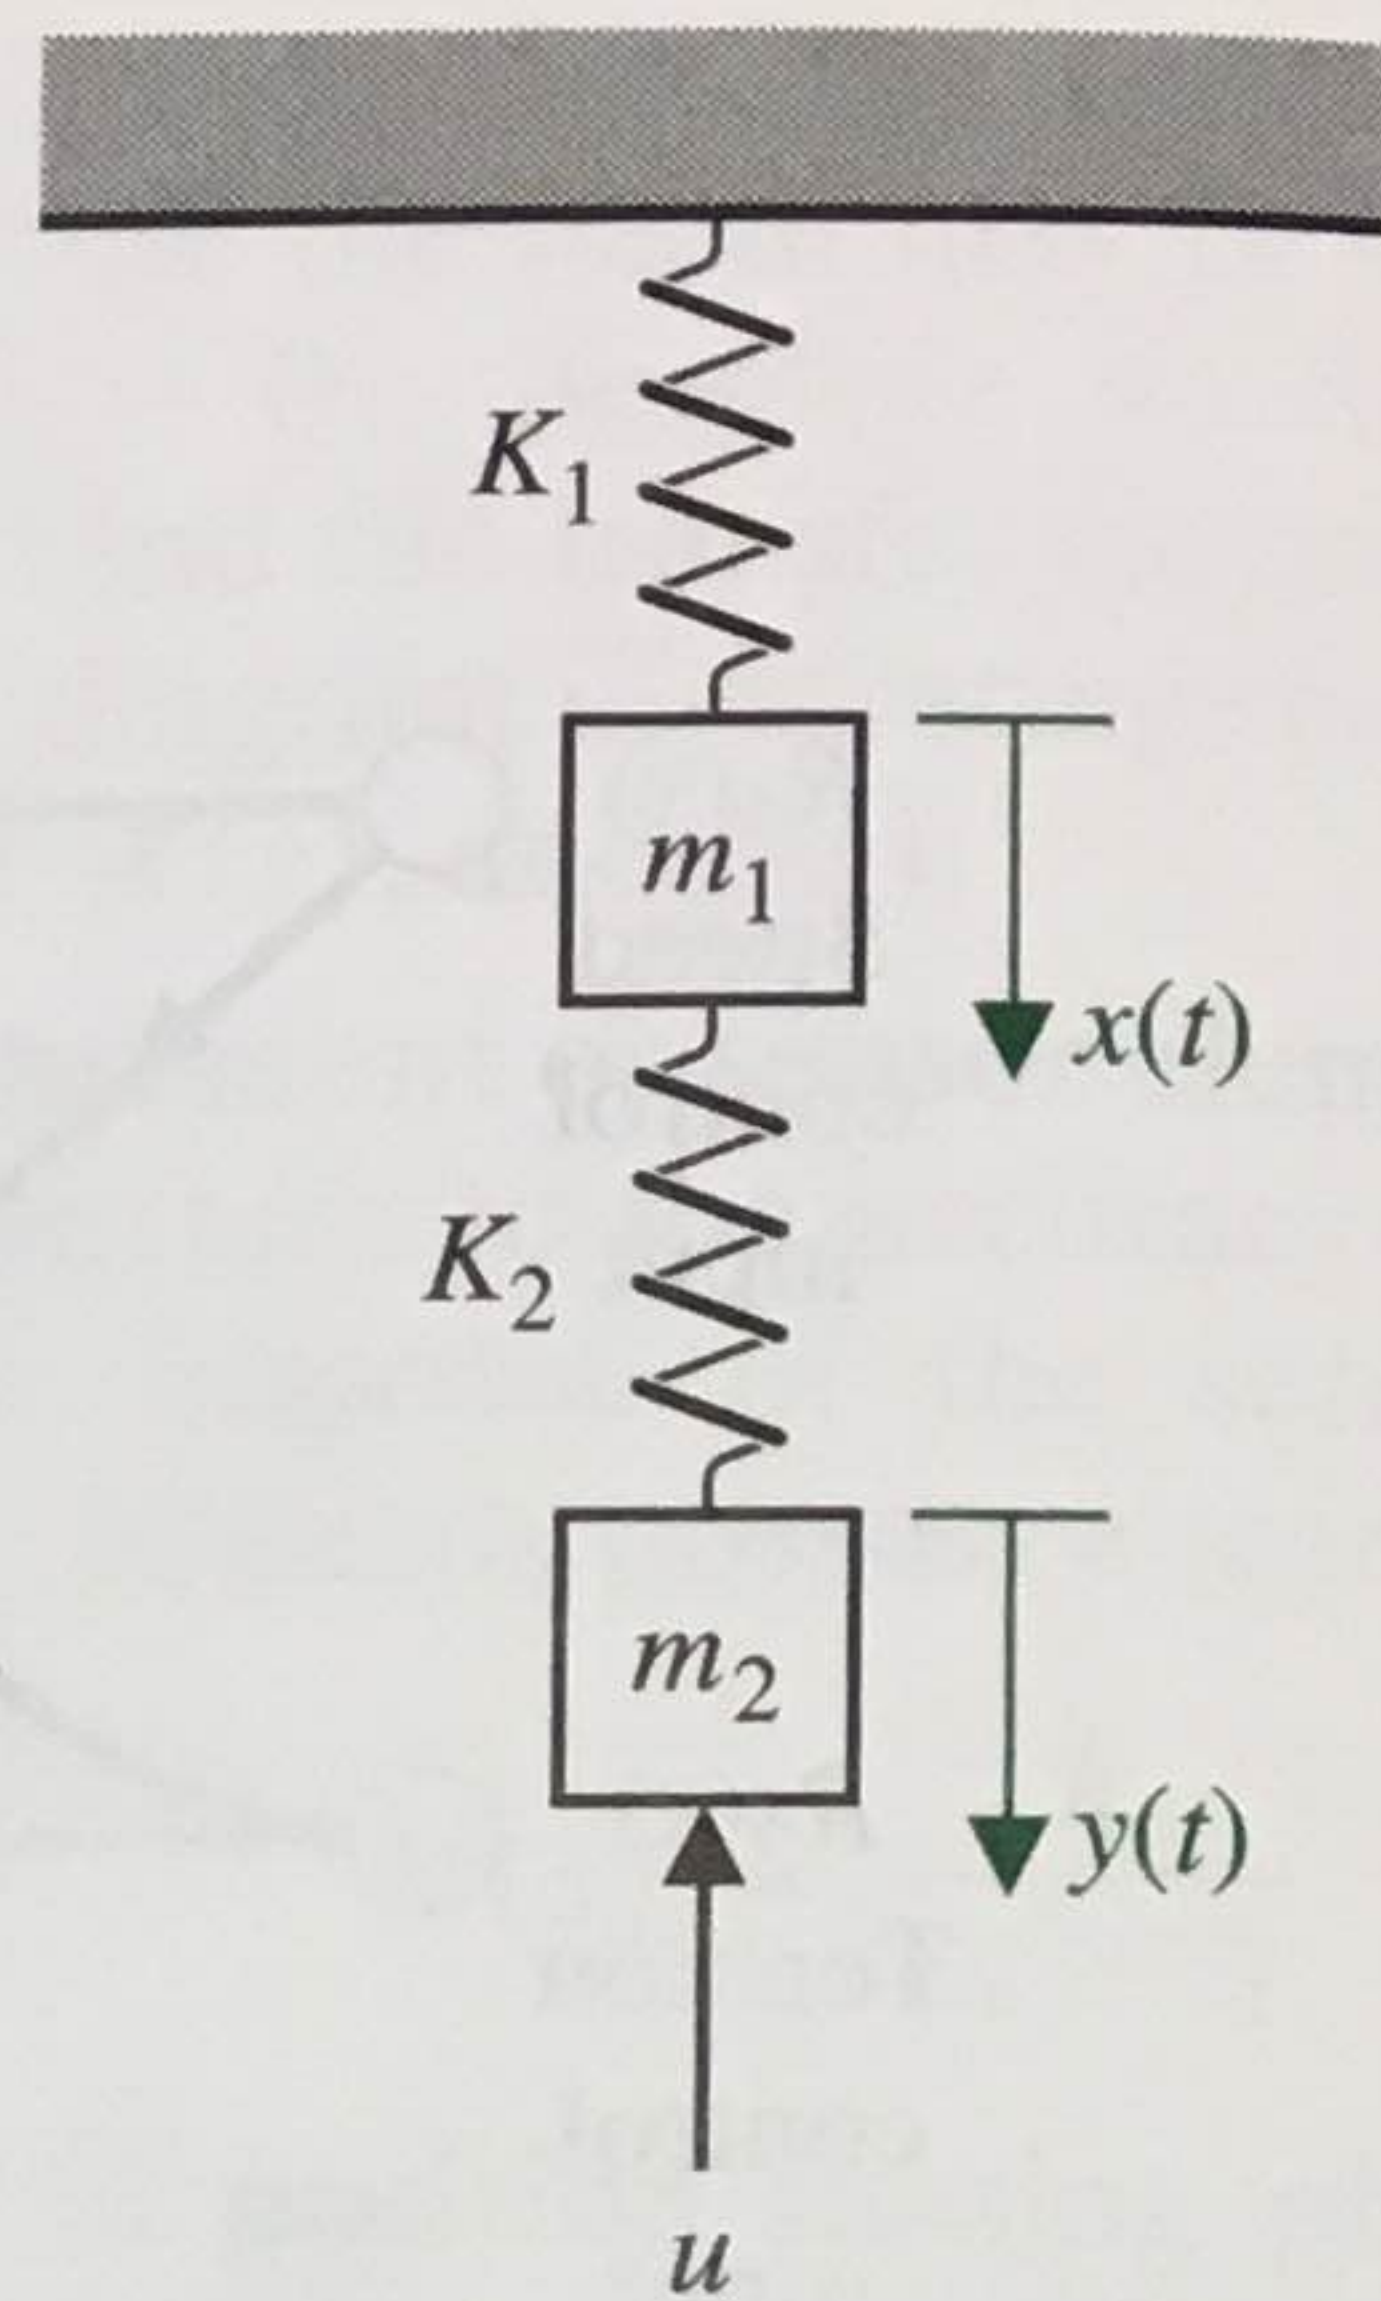

FIGURE P2.37 Two-mass system.
- P2.37** A two-mass system is shown in Figure P2.37 with an input force $u(t)$. When $m_1 = m_2 = 1$ and $K_1 = K_2 = 1$, find the set of differential equations describing the system.